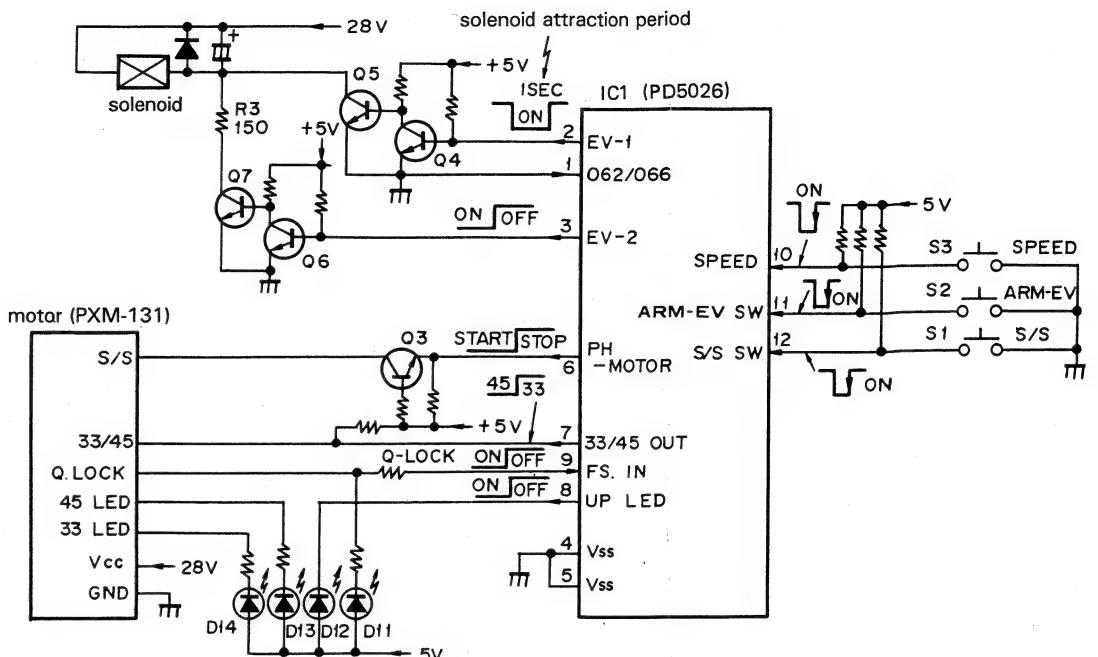

Fig. 10-5 Control Block
① Initiation of motor rotation (Fig. 10-5)